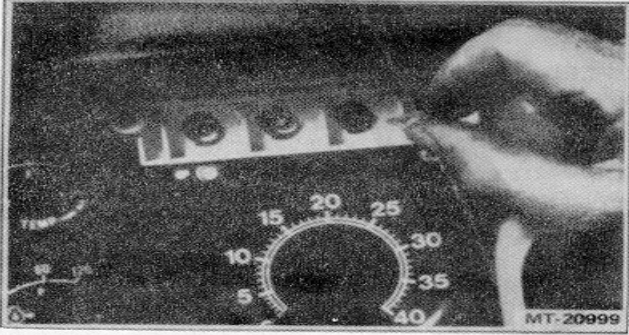

Figure 10 Removing Bulb From Front of liter
5. Light bulbs are plug-in type and are serviceable from either front or rear of instrument cluster (Figures 10 and 11).